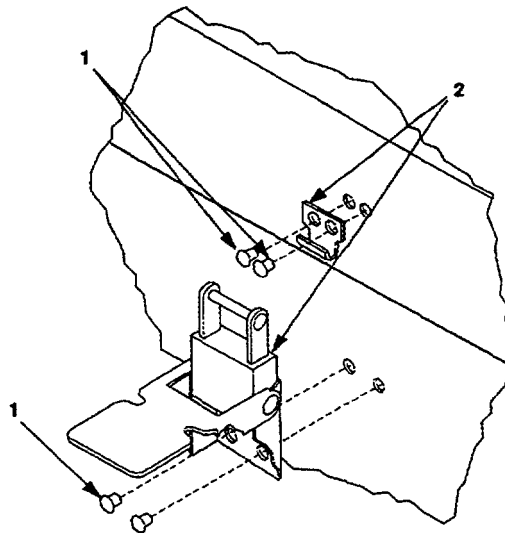

Figure 4-16. Clamping Latch Replacement
1. Drill out rivets (1, figure 4-16) that secure clamping catch (2).
2. Remove defective clamping catch (2).